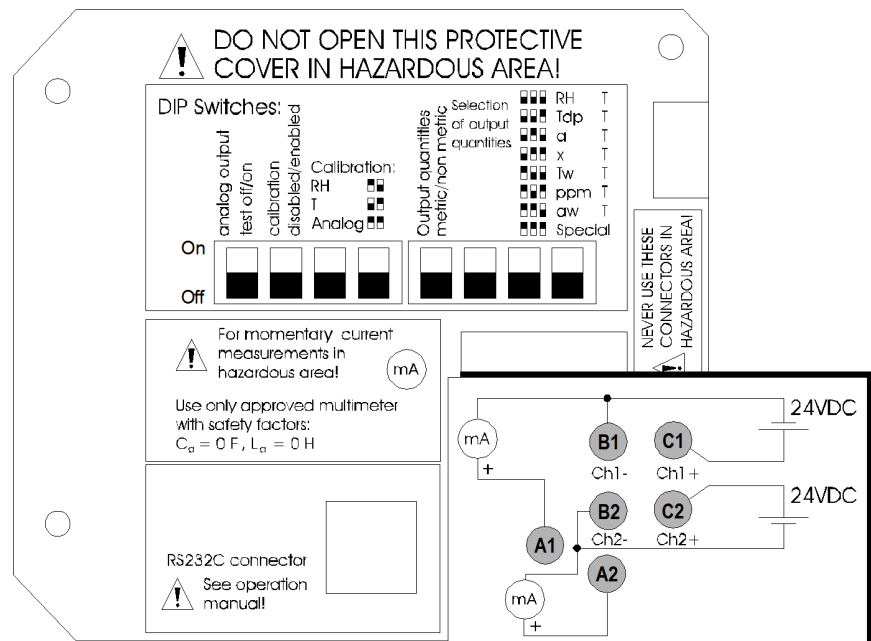

Figure 25 Connecting Power Supply and Multimeter for Calibration
1. Connect a power supply (12 ... 24 VDC, with a serial port the minimum supply voltage is 15 VDC) to the terminals B1 (-) and C1 (+) (Ch 1) with banana plugs, see Figure 25 on page 63.